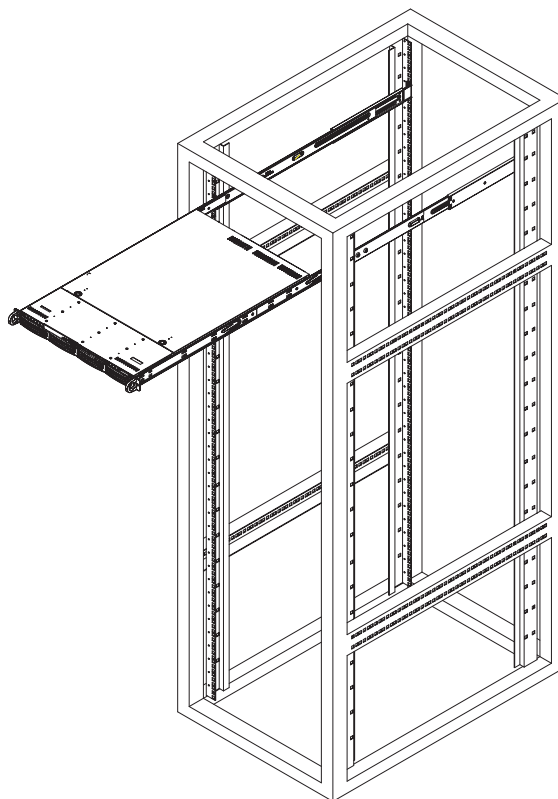

Figure 2-2. Installing the Server into a Rack
2. Slide the chassis rails into the rack rails, keeping the pressure even on both sides (you may have to press the locking tabs when inserting). See Figure 2-2.